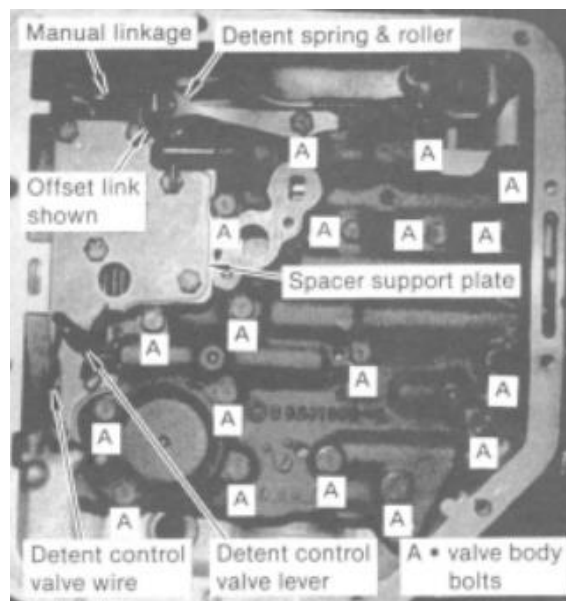
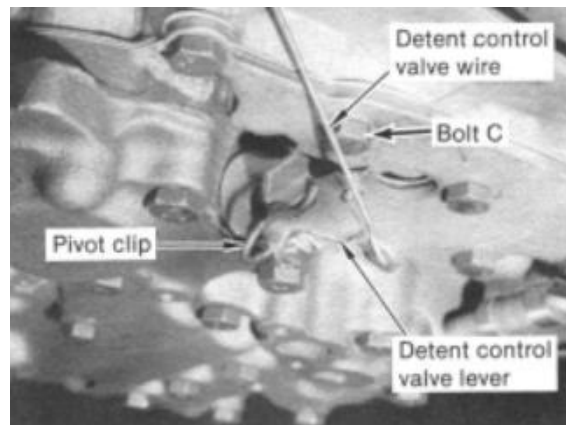

Figure 2
Figure 3
3. Observe the location of the following: (See Fig. 2) Manual linkage, detent spring and roller, S-link or offset link, detent control valve wire and lever, and support plate.
4. Remove pivot clip holding detent control valve lever in place. (See Fig. 3) Remove lever also and set them in the tray. Remove eighteen valve body attaching bolts. (See Fig. 2) Leave drain pan positioned as there is still oil between valve body and separator plate. Remove valve body by pulling straight down and disengaging manual valve and link from manual lever. (Do not let manual valve fall out of valve body.) Put the valve body in the oil pan.
5. Remove support plate bolts and support plate. (See Fig. 2) Remove stock separator plate, gaskets and four check balls. You will not reuse your stock separator plate. Leave drain pan positioned is there as still oil between separator plate and case. Check balls are between the plate and case. If front servo assembly falls out install it back in position with grease to retain it. Order of assembly is: spring, retainer, pin, washer and piston. See Fig. 5A,
5. Connect detent control valve lever to detent cable wire. Position lever on body. Install pivot clip. (See Fig. 3) if pivot clip contacts spacer support plate and does not fully seat into slot on detent control lever, trim pivot clip until just clears support plate. Detent control lever must pivot freely for correct operation. If detent control valve lever contacts bolt 'C' (See Fig. 3), Remove lever and file or grind clearance. Tighten screws securely.